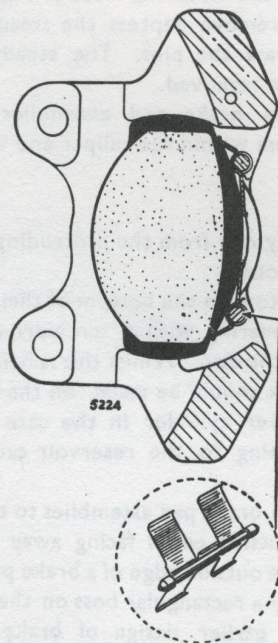

Fig. 13. Section through caliper (early type of brake pad and retaining pin shown)
2. On the rear of each caliper (2) there are two steady springs (5) which are held in place by two split pins. On earlier cars, retaining pins of the type shown in the inset of Fig. 13 were used. To remove depress the steady springs and withdraw the pins. The steady springs may now be removed.
3. Remove the brake pad assemblies (10) by rotating them within the caliper and withdrawing.
that the pressure plate extends beyond the friction lining along that edge (see Fig. 13). Enter the pads, lower ends first, into the caliper and rotate until correctly positioned.
4. Fit the new springs and split pins or retaining pins. Where the retaining pins are supplied, make sure that the steady springs are securely located between the shoulders of the pins (see inset Fig. 13). Make sure that the steady springs are fitted the right way round; with reference to Fig. 13, it will be seen that each steady spring is shaped like the letter 'H', having a pair of long and a pair of short legs. When assembled the long legs of the two springs should be facing each other.